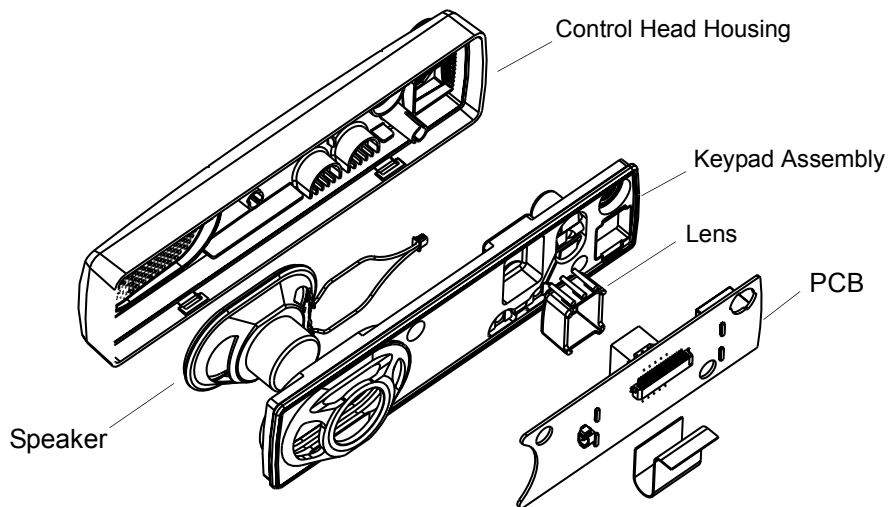

Figure 2-9 Control Head Housing Removal (CM140/CM340)
1. Disconnect the flat cable from the Control Head PCB connector. See Figure 2-9